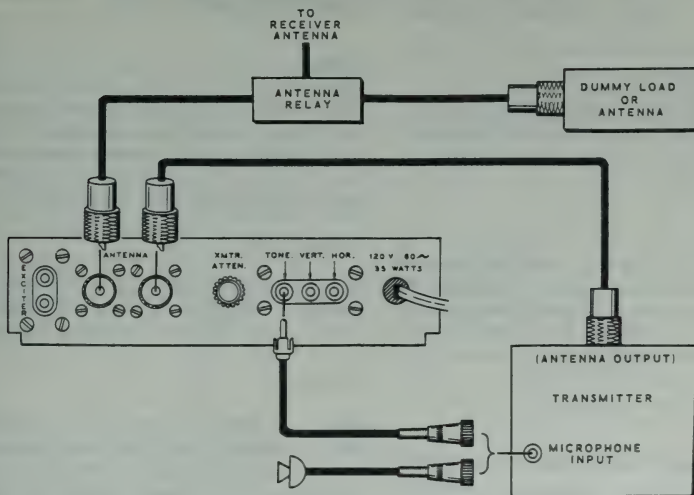

Figure 7
- () Connect the Scope as shown in Figure 7.